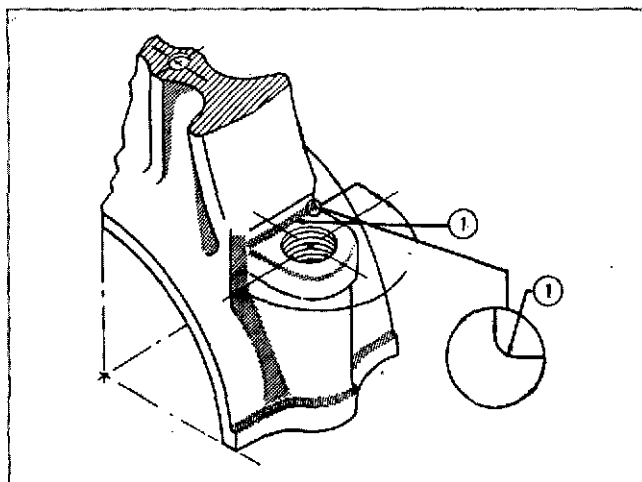

Fig. 1-8-7, V40114. Connecting rod radius specification
1. A dimension of 0.0800/0.0900 inch [2.0320/2.2860 mm] (1, Fig. 1-8-7) fillet radius must be present at all corners where rod is milled for bolt head.